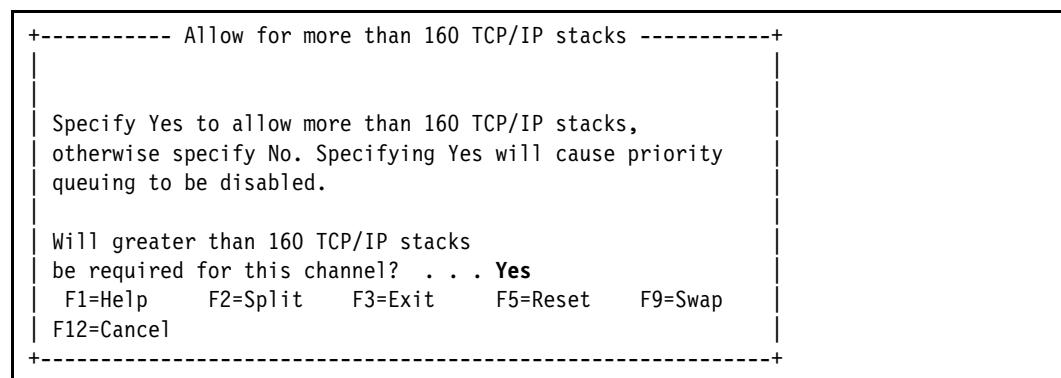

Figure 13-46 Processors: Allow for more than 160 TCP/IP stacks, OSM
6. HCD now prompts you to specify whether the Allow more than 160 TCP/IP stacks. The default is Yes, which we will use for our example (Figure 13-46). Press **Enter**.